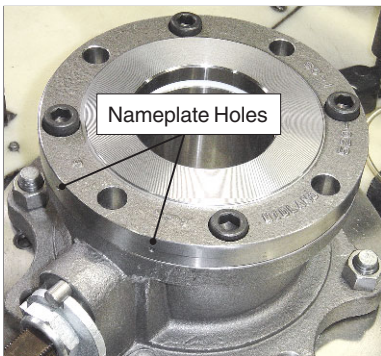

Figure 21 - Name Plate Holes Orientation
3.2.23 Orient the cap so that the nameplate (or its holes) straddle the valve stem (Fig. 21).